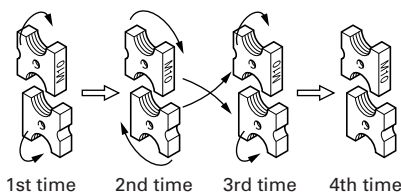

Fig. 17
(3) Before attaching
- ① There are four edges on the cutter. As shown in Fig. 17, by changing the position of the edge it is possible to use the blade four times.